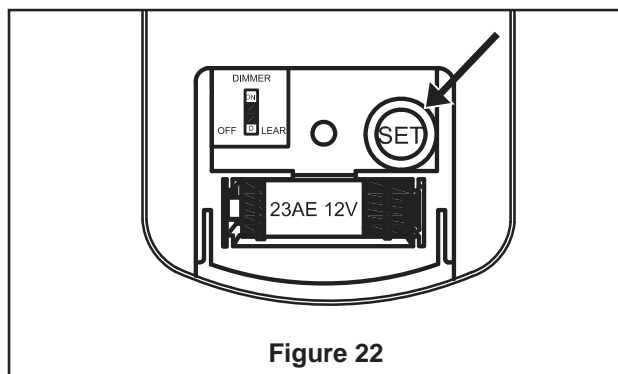

Figure 22
- ☐ 3. **Remote Control Setting and Speed (RPM) Setting Process : (Figure 22)**